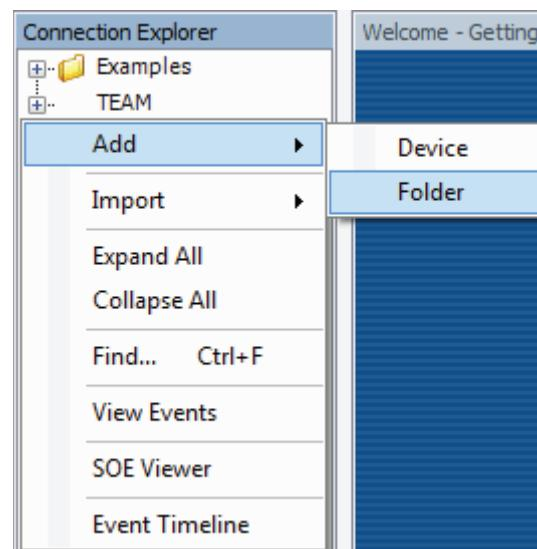
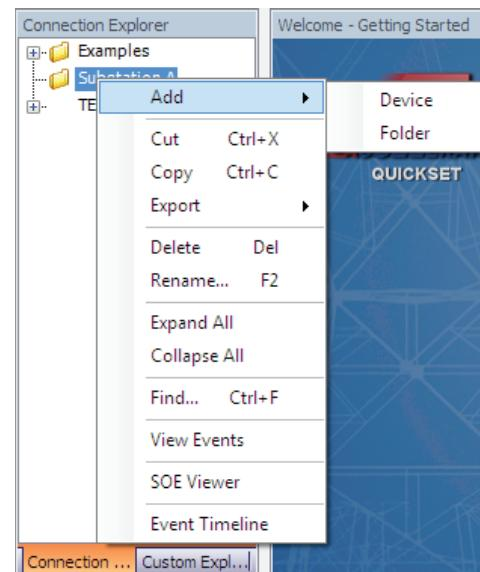

Figure 41 Add Folder in Connection Explorer
Figure 43 Add Device in Connection Explorer
- Step 3. Right-click in the Connection Explorer and select **Add > Folder** as shown in *Figure 41*.
Step 5. Right-click on the **Substation A** folder and select **Add > Device**, as shown in *Figure 43*.
window and select **Add > Device** (*Figure 43*). To add a new substation, right-click in the **Connection Explorer** window (*Figure 41*) and select **Add > Folder**.